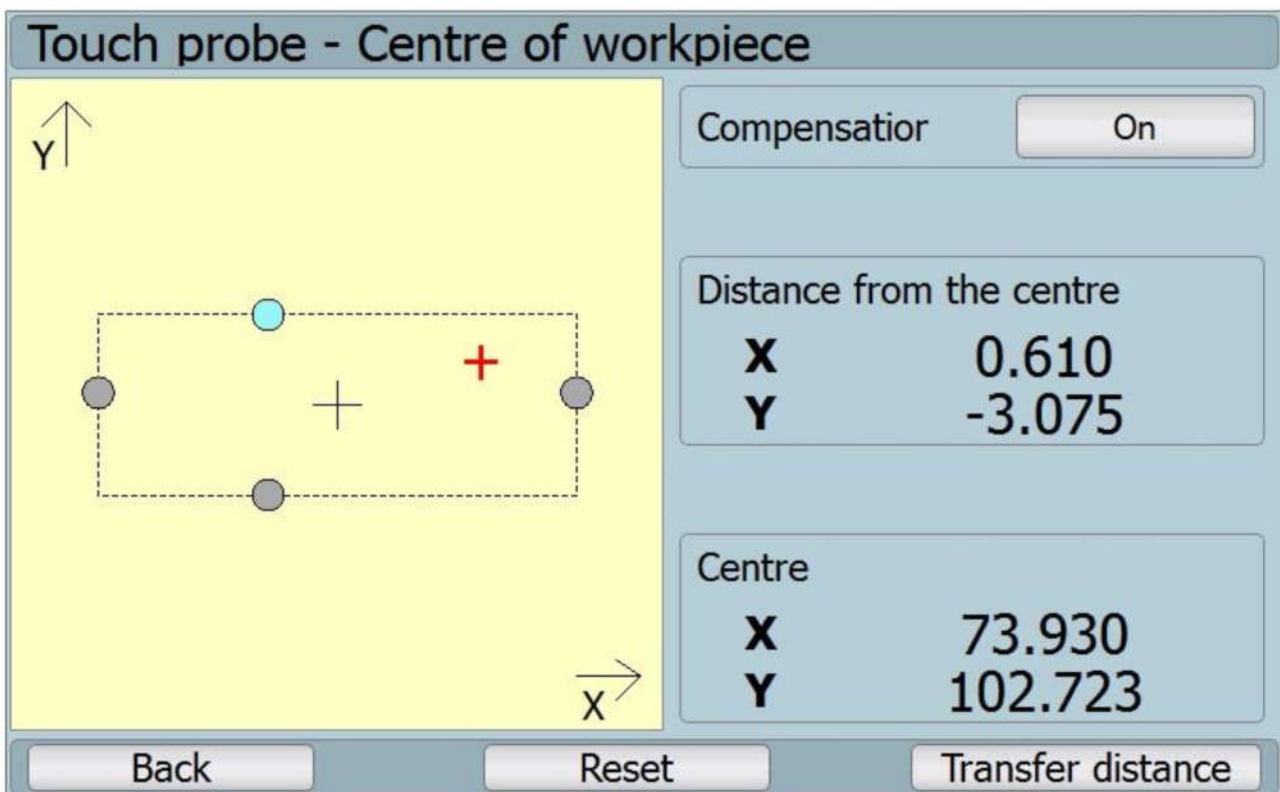

Fig. 49: Touch probe – workpiece centre – found centre
- ⑩ After reaching the remaining three points (each on one side of the workpiece) and confirming the coordinates, the found workpiece is drawn with the centre (see fig. 49: Touch probe – workpiece centre – found centre).
- ⑩ It displays value of coordinates of the found centre, and it displays data on the workpiece centre distance from the touch probe coordinates.
- ⑩ Button „Zapnuto/Vypnuto“ (on/off) for the compensation edits values of the centre coordinates as per the defined compensation received during the calibration of the touch probe on the circle (see chapter **Chyba! Záložka není definována.**).
- ⑩ Button „Reset“ sets everything into the initial setting.
- ⑩ Button „Prenest stred“ (transfer centre) transfers the coordinates of the defined axis centre.